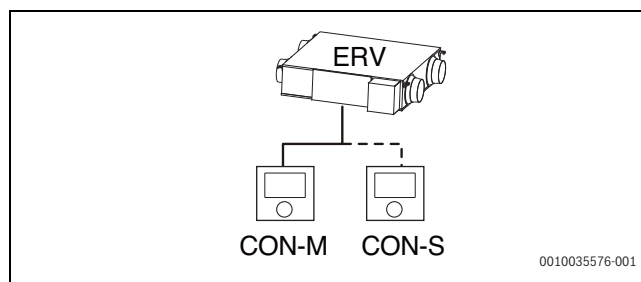

Fig. 16 Stand-alone ERV unit
- Single ERV controlled by one or two (master/slave) controller (→ fig. 16).